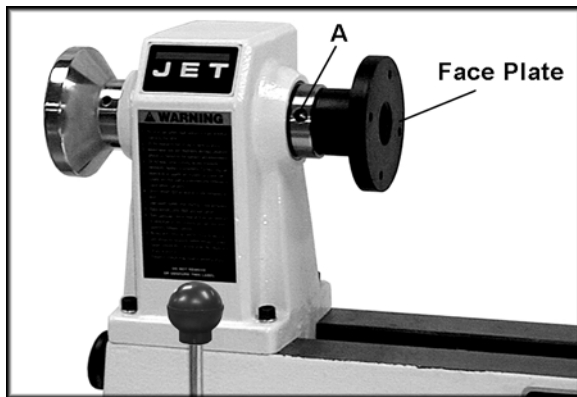

Figure 5
**Face Plate** (Figure 5) – screws on to the headstock and is used in face plate turning operations. Mount your workpiece onto the faceplate with brass wood screws (not provided). Make sure the screws are not so long that they will enter the area of the workpiece where the material is to be removed. To remove the faceplate from the spindle, place knockout rod into hole A (Figure 5) and let it contact the bed of the lathe for leverage. Then unscrew the faceplate.